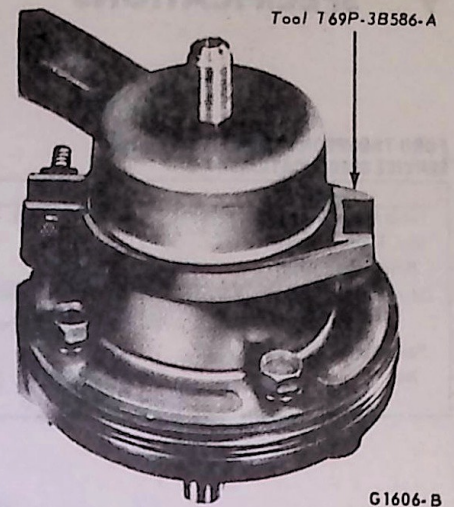

FIG. 19 Pump Housing Installation
17. Using Tool T69P-3B586 A, plug the intake hole in the housing (Fig. 19).